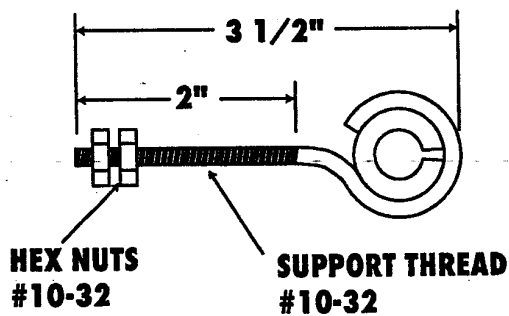

Figure 6-3
1. Mount cable support and press split plastic bushing out of support eye. Cable supports (see Figure 6-3) are used to guide high voltage cable from the charging bar along the machine frame to the power supply. Cable should always be kept at least 1/4" away from metal surfaces such as machine frames and metal panels.